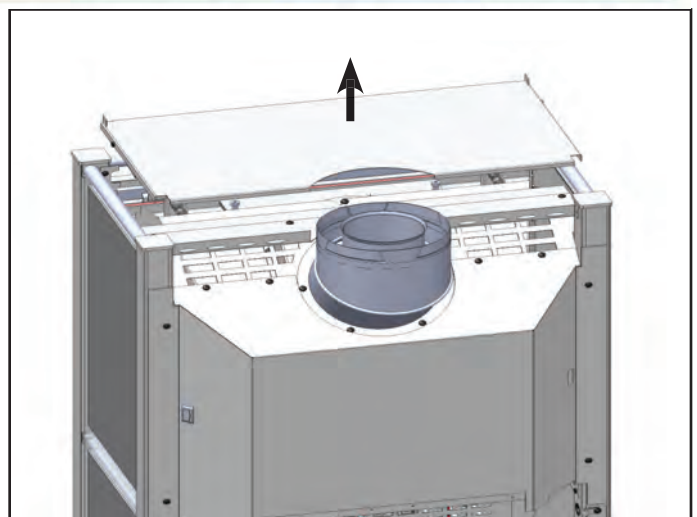

Fig.13
1. Remove the top assembly from the appliance and set aside. (**Fig.13**)